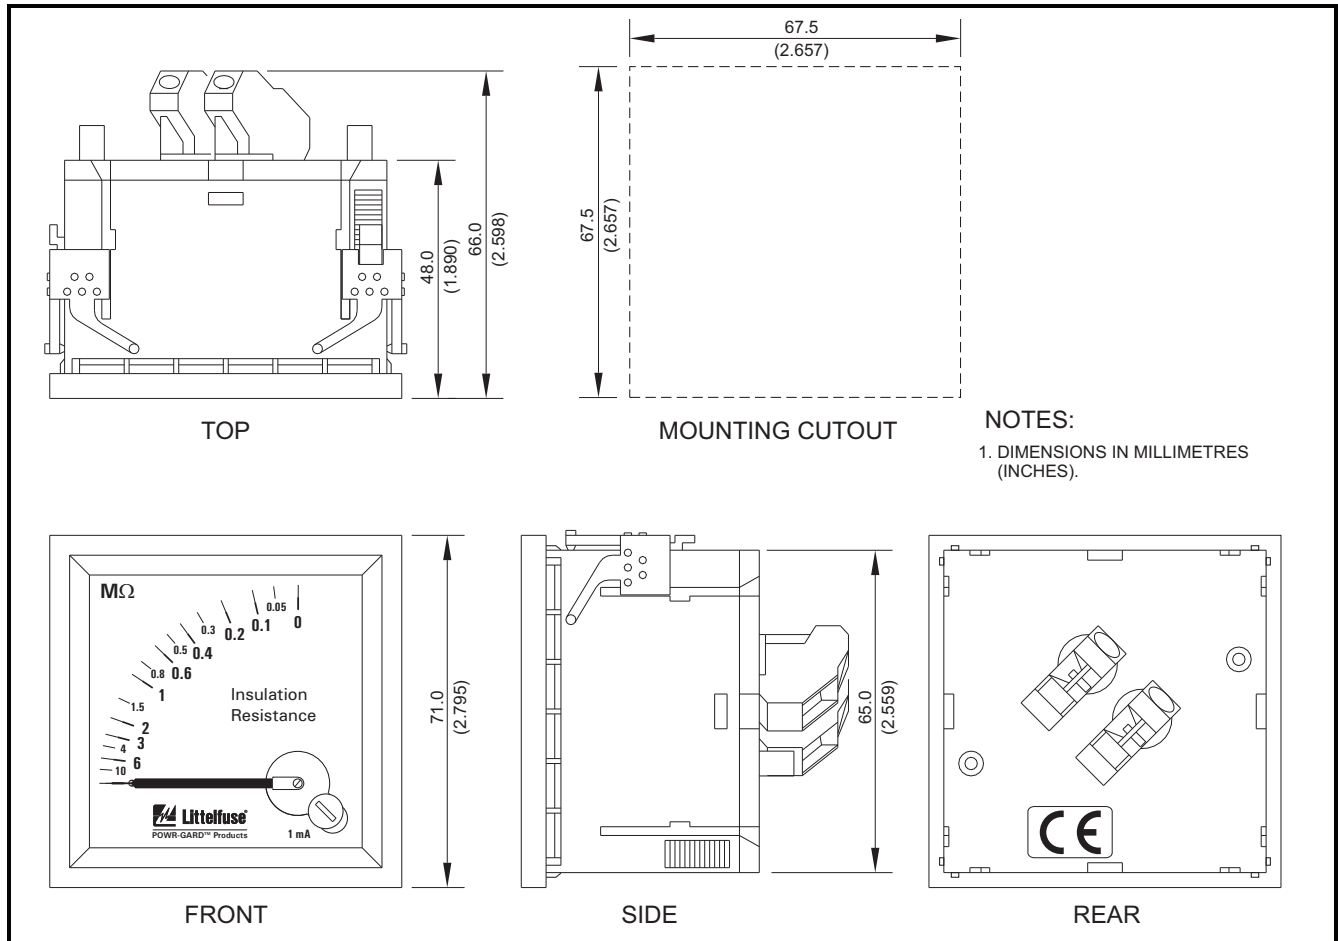

FIGURE 6. PGT-0400 Analog Ohm Meter
- d) Verify proper reaction of the circuit-interrupting device in response to a simulated or controlled ground-fault current. To simulate ground-fault current, use CT-primary current injection. Fig. 6 shows a test circuit using the PGT-0400 Ground-Fault-Relay Test Unit. The PGT-0400 has a programmable output of 0.5 to 9.9 A for a duration of 0.1 to 9.9 seconds. Fig. 6 shows the use of resistors that reduce the injected current to 10% of the PGT-0400 setting. Set the test current to 120% of the PGR-6100 setting. Inject the test current through the CT window for at least 2.5 seconds. Verify that the circuit under test has reacted properly. Correct any problems and re-test until the proper reaction is verified.